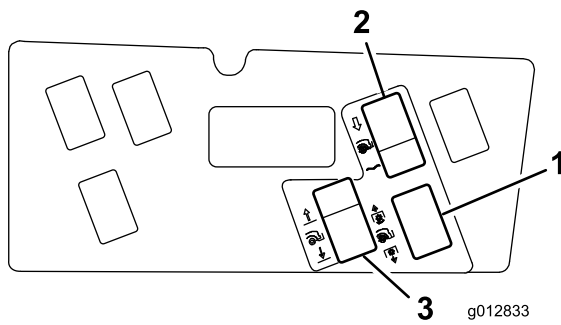

Figure 27
46. Clean the control panel surface and affix the decal around the exposed holes (Figure 27).
47. Insert the switches into the appropriate mounting holes (Figure 27). The flat on the switch is to be positioned toward the operator.